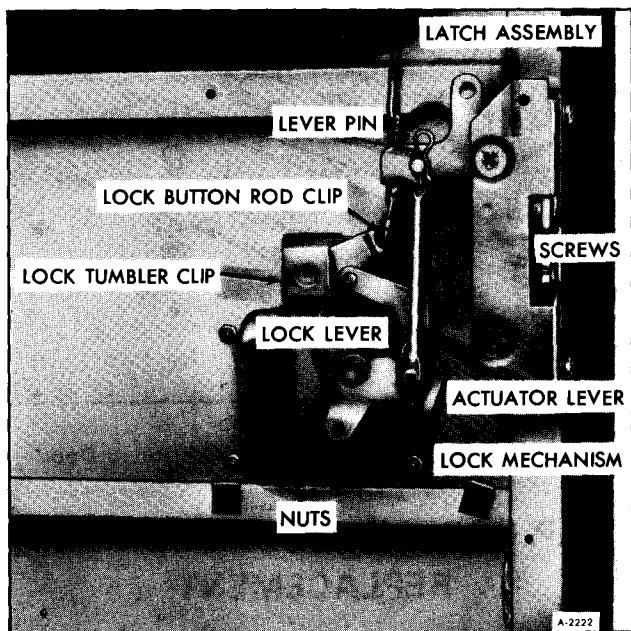

Figure 33—Lock Assembly
6. Remove actuator lever pin and lock button rod clip. See Figure 33.
7. Remove (2) screws from latch assembly at door frame. Remove this portion from the door.
8. Remove four (4) nuts and lock tumbler clip. Remove lock mechanism. See Figure 33.
2. Apply a liberal amount of lubriplate to all contacting surfaces. Secure assembly with four (4) nuts.
4. Install latch assembly on door frame and loosely secure with two (2) screws on door frame.
5. Install lock button rod clip and actuator lever pin as shown in Figure 33.